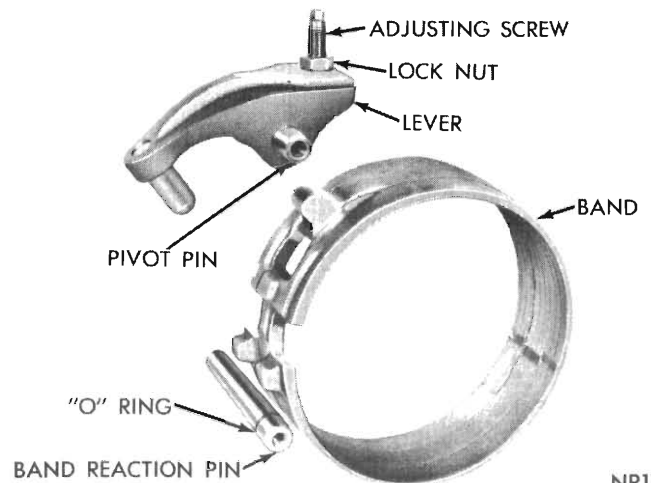

Fig. 99 - Double wrap band and linkage — disassembled (A-904-LA transmission only)
(2) Place band into case resting two lugs against band reaction pin (*Fig. 99*).
(3) Install low-reverse drum into over-running clutch and band.
(4) Install operating lever with pivot pin flush in case and adjusting screw touching centre lug on band (*Fig. 99*).
#### Kickdown Servo (Figs. 99 or 100)